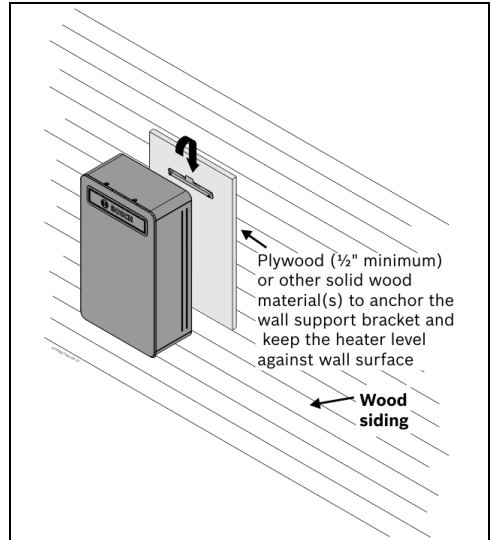

Fig. 6 Installation on wood siding
- ▶ The water heater is approved for installation directly on an outside wall. Secure the wall mounting bracket provided with the water heater to a wall surface. See fig. 6.
recommended that a support board be first attached across a pair of studs at the bottom of the unit as shown in fig. 6.